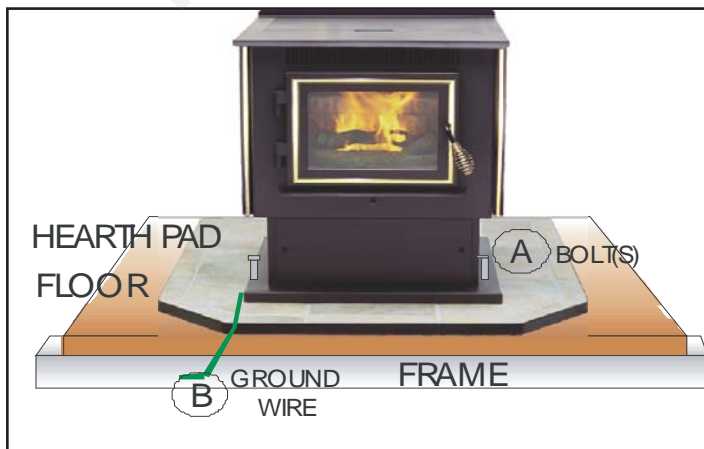

Fig. 20.1
- Electrically ground your stove or the pedestal to the steel frame of the home. Use a number 8 gauge copper wire, (B), fig. 20.1, or equivalent.